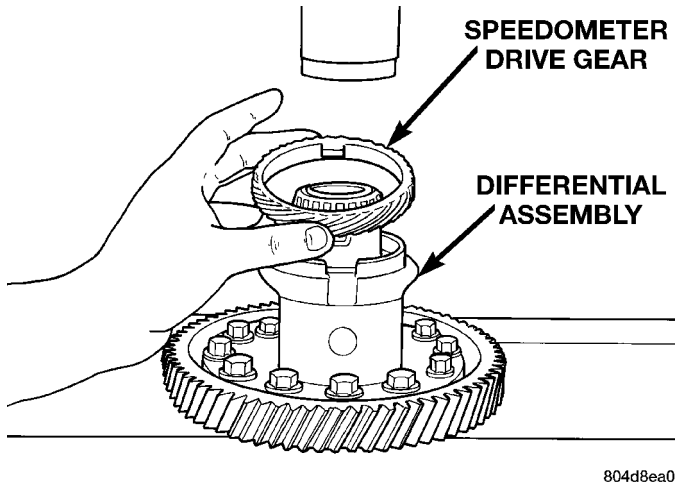

Fig. 105 Speedometer Drive Gear
(1) Position speedometer drive gear onto differential assembly (Fig. 105).